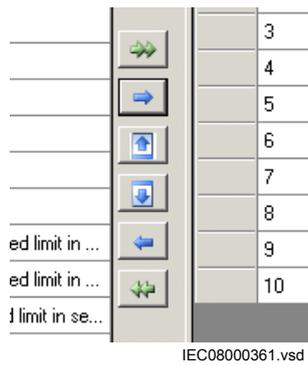

Figure 75: CMT: Move buttons
3. Press the green double arrow button to insert all signals into the configuration, see Figure 75.